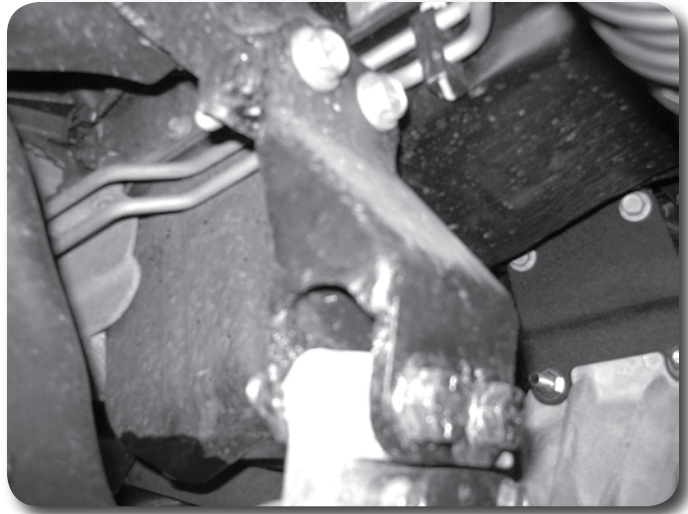

Figure. 13
32. Install the provided passenger's side differential drop bracket to the original frame mount with $1/2$ " hardware '08 models will use factory hardware. Leave hardware loose. **Figure. 13**